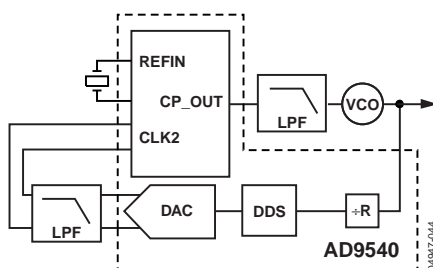

Figure 34 Fractional-Divider Loop
**Fractional-Divider Loop** This loop offers the precise frequency division (48-bit) of the DDS in the feedback path as well as the frequency sweeping capability of the DDS. Programming the DDS to sweep from 24 MHz to 25 MHz sweeps the output of the VCO from 2.7 GHz to 2.6 GHz. The reference in this case is a simple crystal (see Figure 34).